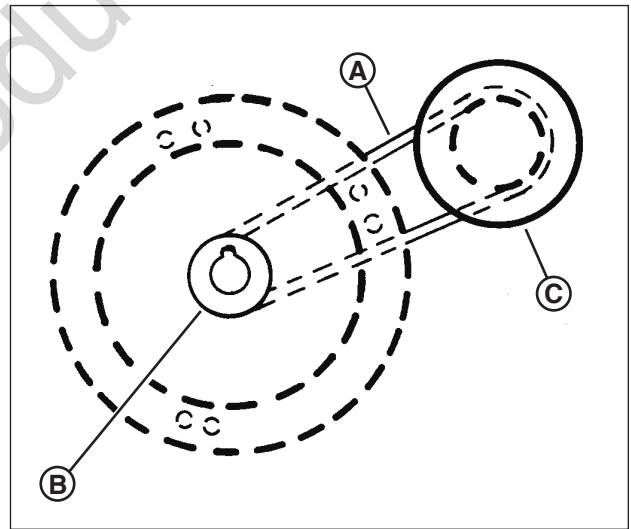

Figure 32: Engine drive belt routing
On self-propelled mowers, the engine belt (**A, Figure 32**) transmits power from the engine pulley (**B**) to the drive disc (**C**). The drive disc powers the poly-v belt, which engages the transmission that powers the rear wheels. Should these belts become worn, they could cause slippage, which would impair mower performance. The condition of the engine belt and poly-v belt should be checked after every 25 hours of mower operation.
2. Note the belt routing (**Figure 32**). There is no idler pulley on these models to disconnect.